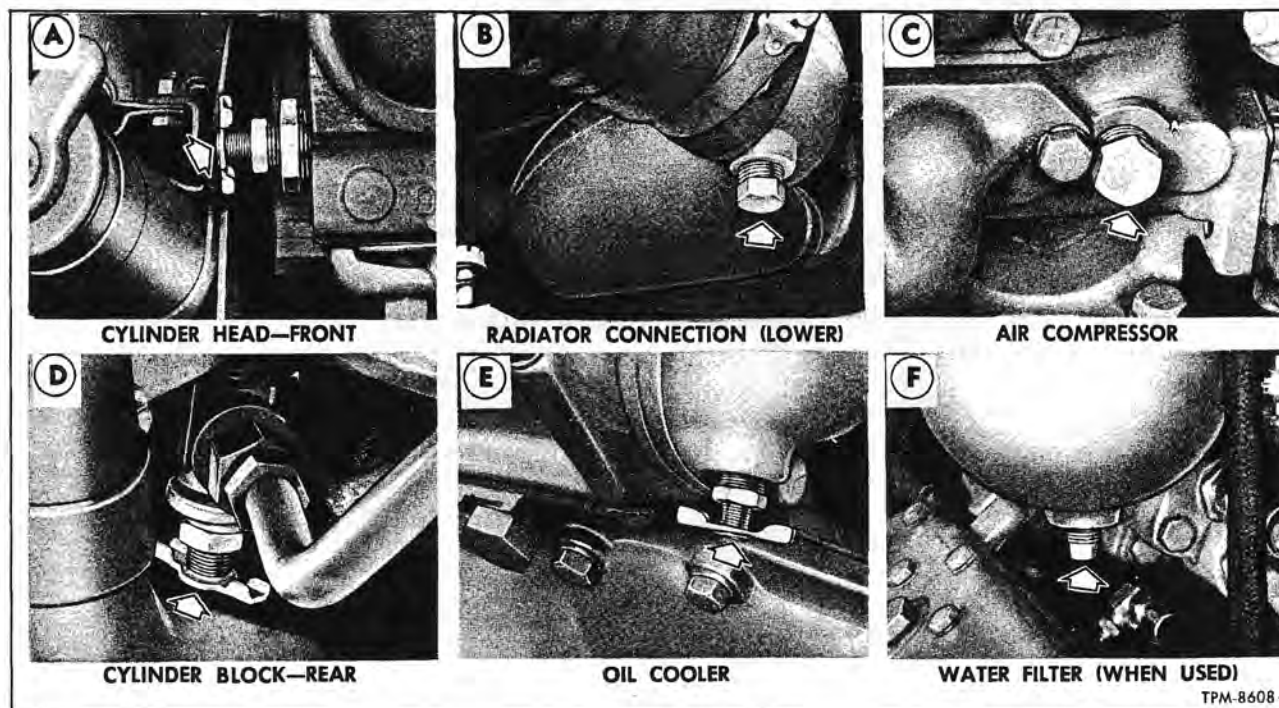

Figure 3—Location of Cooling System Drain Points
1. Remove drain plug from radiator outlet connection at bottom of radiator (B, fig. 3).
2. At bulkhead side of engine open drain cock at oil cooler (E, fig. 3).
3. Remove pipe plug at air compressor (C, fig. 3).
4. At rear side of engine, open drain cock at front of cylinder head (A, fig. 3), also at rear of cylinder block (D, fig. 3).
5. When used as special equipment, remove plug from bottom of filter housing (F, fig. 3).